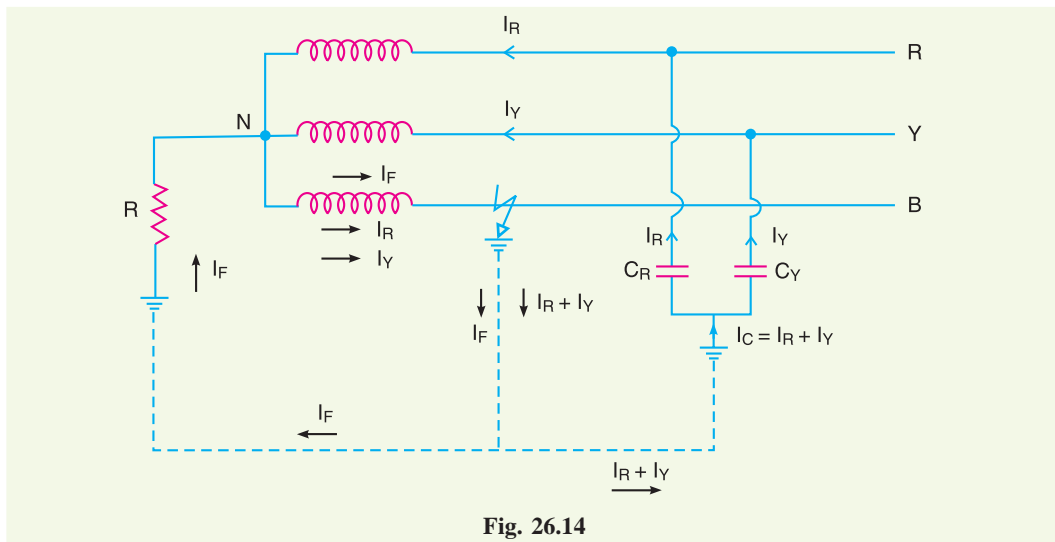

Fig. 26.14
- (i) By adjusting the value of  $R$ , the arcing grounds can be minimised. Suppose earth fault occurs in phase  $B$  as shown in Fig. 26.14. The capacitive currents  $I_R$  and  $I_Y$  flow in the healthy phases  $R$  and  $Y$  respectively. The fault current  $I_F$  lags behind the phase voltage of the faulted phase by a certain angle depending upon the earthing resistance  $R$  and the reactance of the system upto the point of fault. The fault current  $I_F$  can be resolved into two components *viz.*